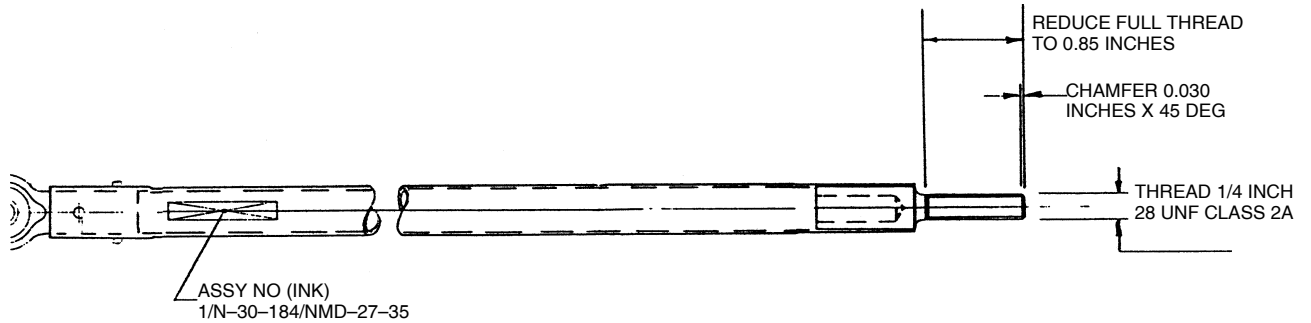

Figure 1 Rework of Horizontal Stabiliser Trim Tab Control Rods
- C. Carefully rework the control rod(s) threaded end fitting (item 12) as shown on Figure 1, taking care not to damage the rod or the threads.